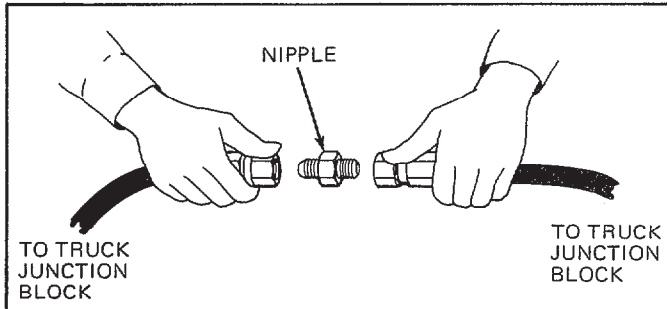

Figure 3. Connect the Two Hoses Together Using a Nipple
- a. Connect the hose ends together using a nipple. See Figure 3.